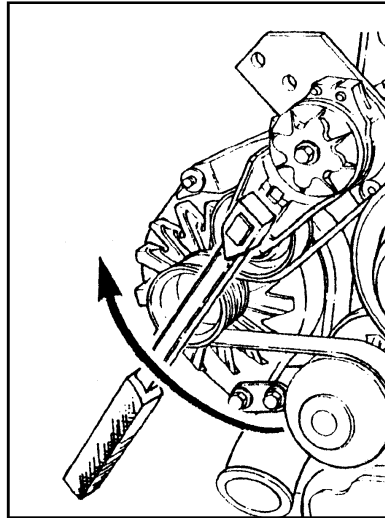
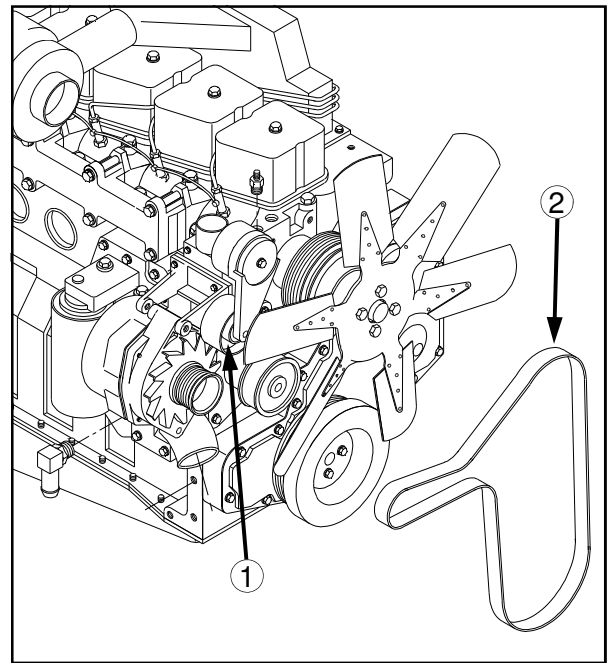

FIG 7.17-1
FIG 7.17-2
REMOVAL– Insert a 1/2 inch square ratchet drive (fig. 7.17-1) into the belt tensioner (fig. 7.17-2, item 1) and lift upward to remove the belt (fig. 7.17-2, item 2).